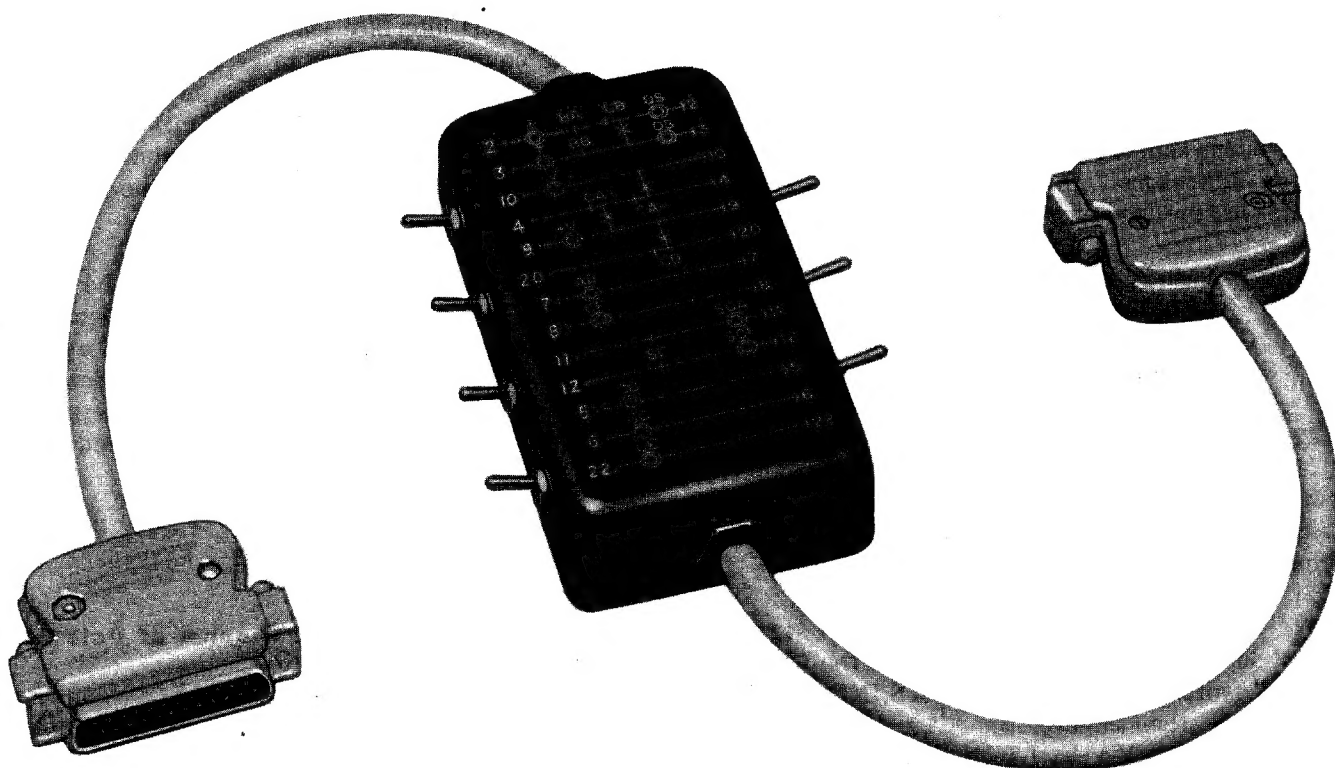

Fig. 2—911P EIA Test Adapter—Schematic Side
3.01 Figure 2 shows a functional diagram of the switches and plugs that comprise the 911P EIA test adapter. No connections are provided on the 911P EIA test adapter for leads other than those shown in Fig. 2. Leads not shown in Fig. 2 are connected through the 911P EIA test adapter